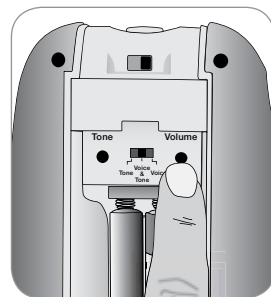

Fig. 6
3. Press VOLUME button (fig. 6) to scroll through both the volume selections.
5. Each time you press the button, the volume changes and a two (2) second sample plays.